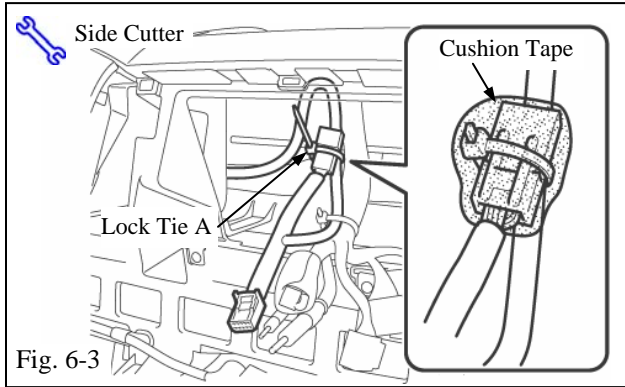

Fig. 6-3
- (d) Secure the female connector of tuner cable with the one (1) lock tie A. (Fig. 6-3)
- (f) Roll up the cushion tape on the secured connector fixed to the wire harness of the body. (Fig. 6-3)